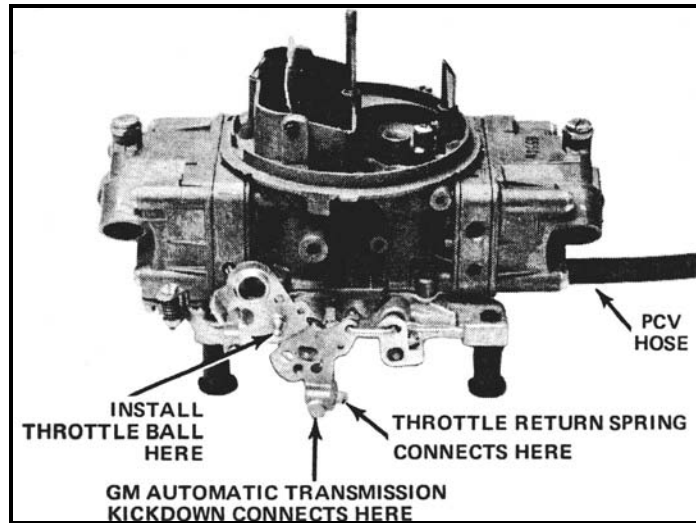
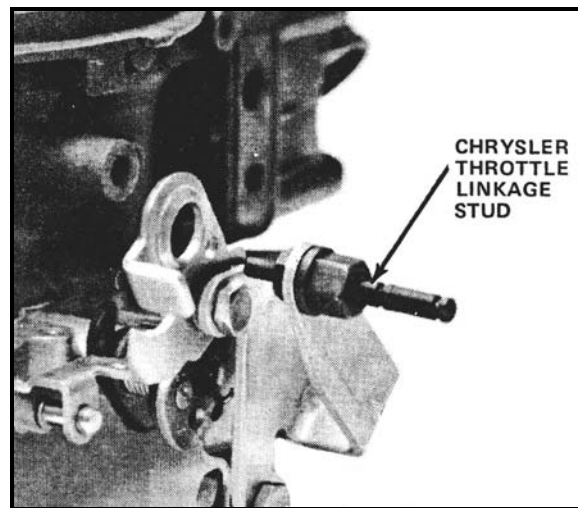

Figure 1
Figure 2
7. Install the throttle ball in the appropriate position on the throttle lever (See figure 1). Some Chrysler applications may require a Chrysler throttle lever extension (Holley P/N 20-7). This is installed as shown in figure 2.
13. Reconnect the appropriate vacuum hoses noting the correct fitting from Figures 1,3, and 4.